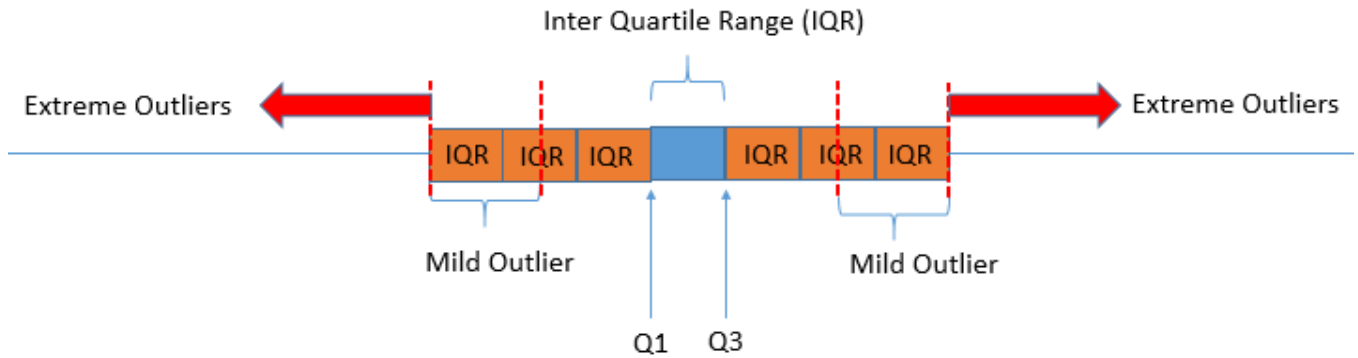

Figure 36: IQR outliers
- Here, we refine the zones ( Figure 36: IQR outliers)